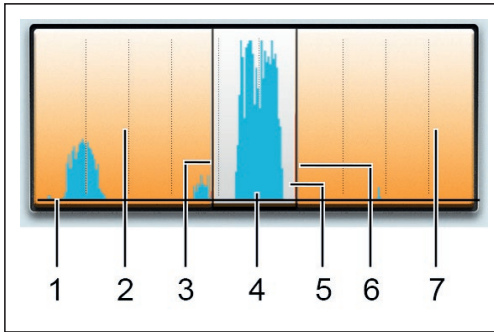

Fig. 21: Frequency graph
1. Tap the frequency graph (fig. 21).